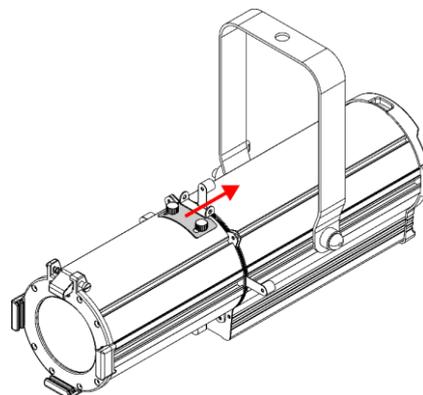

Fig. 14
- 06) Slide the **gobo slot cover plate (10)** towards the **gobo holder (08)** (see Fig. 14).